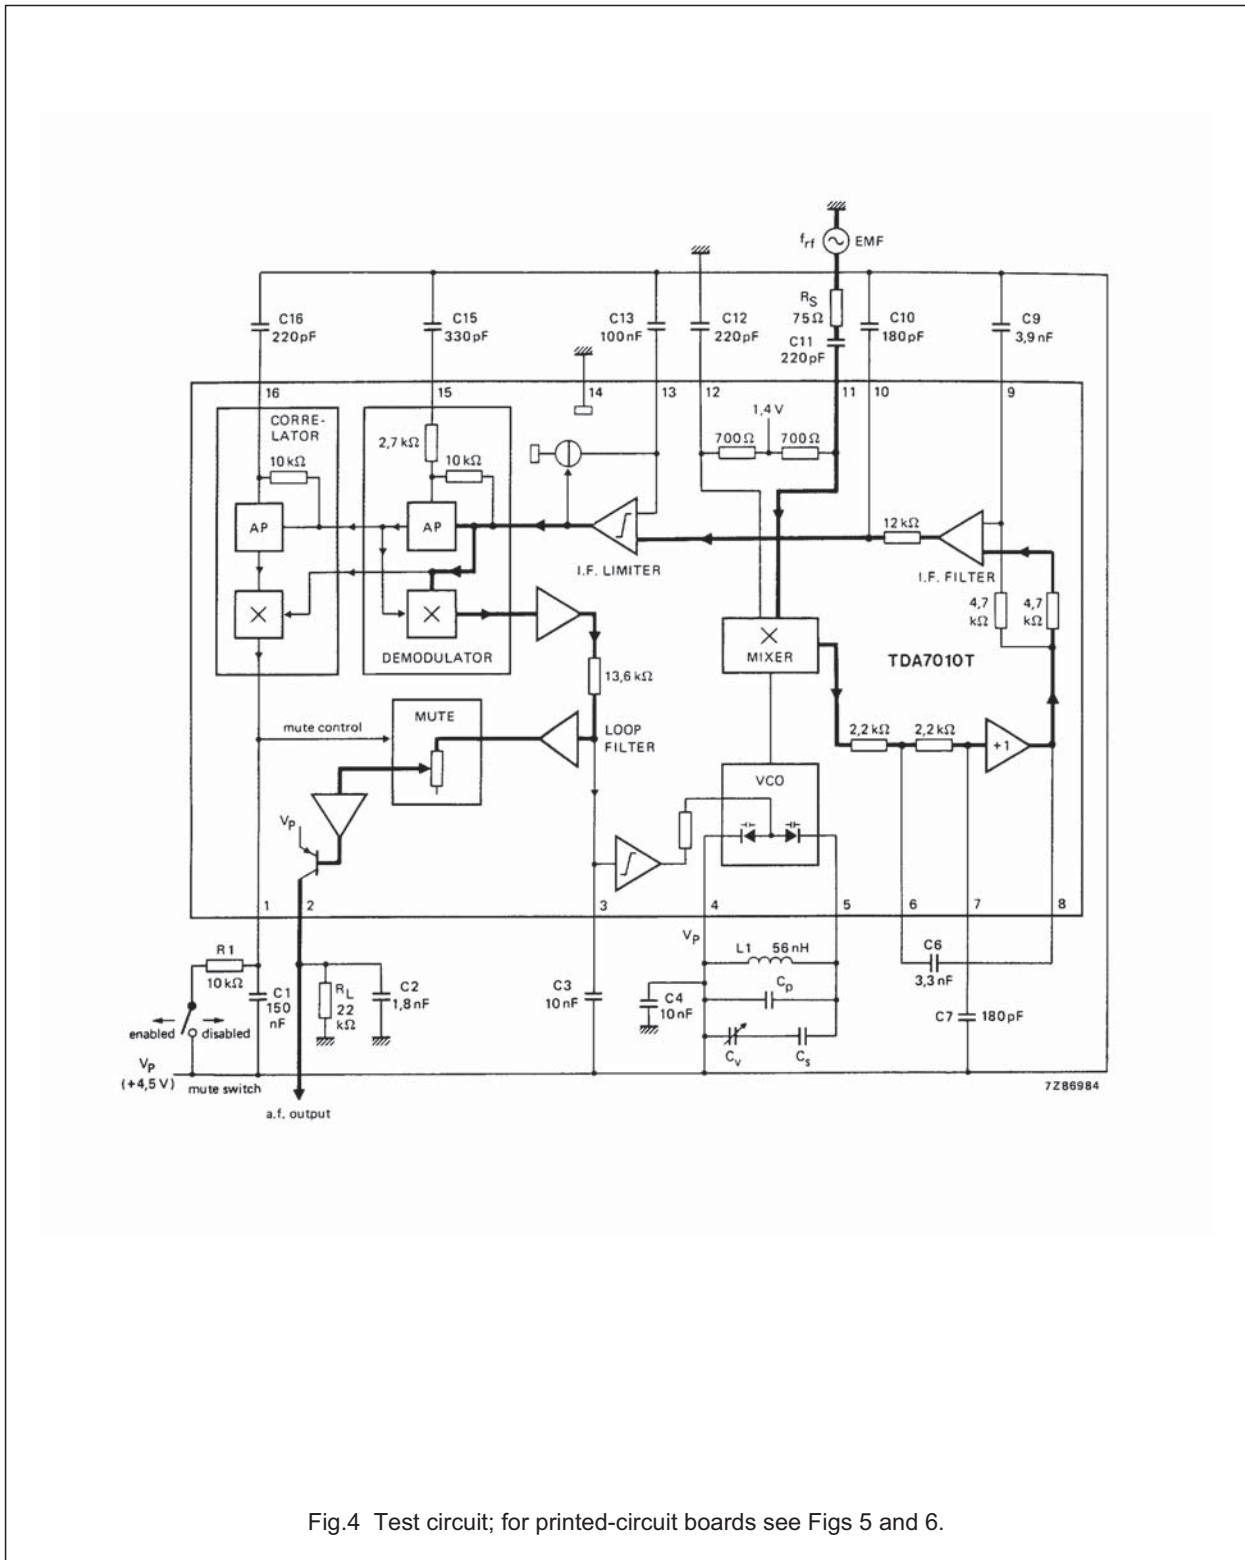

Fig.4 Test circuit; for printed-circuit boards see Figs 5 and 6.
**D.C. CHARACTERISTICS** $V_P = 4,5$ V; $T_{amb} = 25$ °C; measured in Fig.4; unless otherwise specified
$V_p = 4,5 \text{ V}$; $T_{\text{amb}} = 25 \text{ }^\circ\text{C}$; measured in Fig.4 (mute switch open, enabled); $f_{\text{rf}} = 96 \text{ MHz}$ (tuned to max. signal at $5 \text{ } \mu\text{V}$ e.m.f.) modulated with $\Delta f = \pm 22,5 \text{ kHz}$; $f_m = 1 \text{ kHz}$; $\text{EMF} = 0,2 \text{ mV}$ (e.m.f. voltage at a source impedance of $75 \text{ } \Omega$); r.m.s. noise voltage measured unweighted ($f = 300 \text{ Hz}$ to 20 kHz); unless otherwise specified.